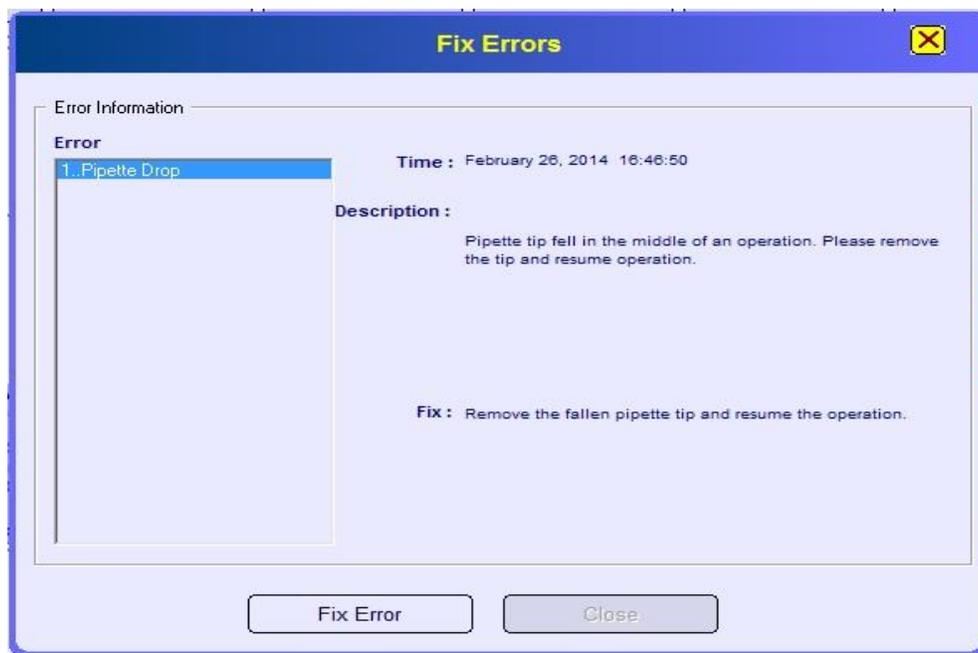

Figure 65: Fix Error
1. Click the **<Fix Errors>** button in the window. The Z-Head will stop proceeding and the **<Fix Errors>** window will appear with the description of the error condition and the appropriate instruction to address the problem (**Fig. 65**).